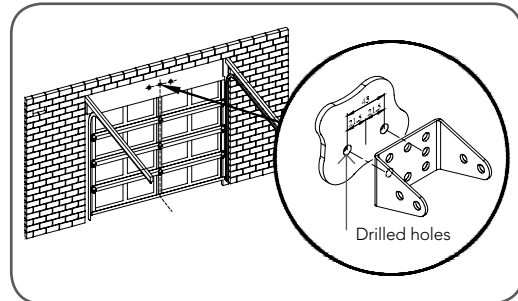

fig 14
- Determine the centre point on the wall above and on top of the door. Then draw two (2) lines extending 21.5mm from each side of the centre point. (Fig. 14)
- Centre the bracket over the intersection of these two lines. Mark centres for at least two holes (Fig. 14).